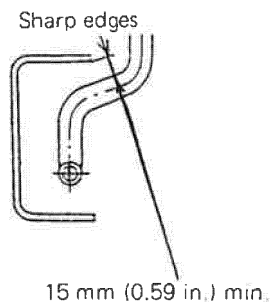

Fig. 5
- Position the brake lines so that they are not closer than 15 mm {0.59 in.} to sharp edges of the frame or other parts. (Fig. 5)